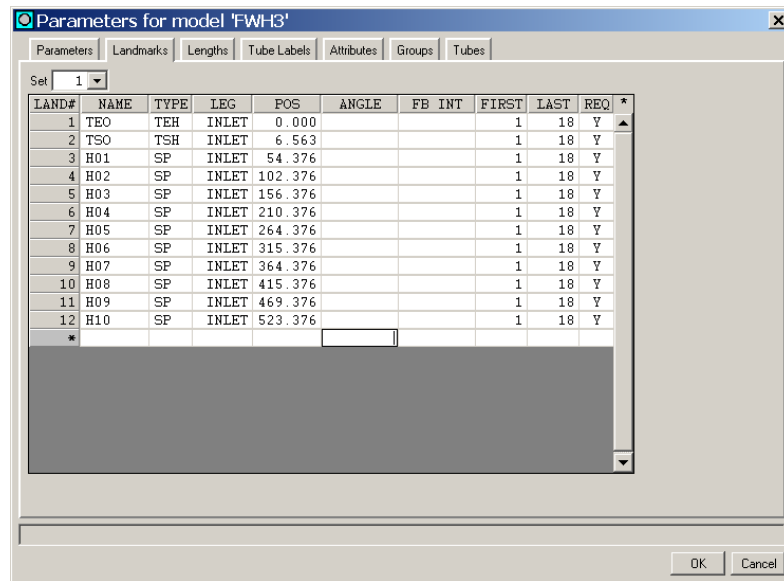

Figure 66. Parameters dialog - Landmarks Tab Showing Landmark Set 1
- STEP 4:** When you have finished, the *Landmarks* tab of the *Parameters* dialog should look like the one shown in Figure 66. Click *OK* on the *Parameters* dialog.